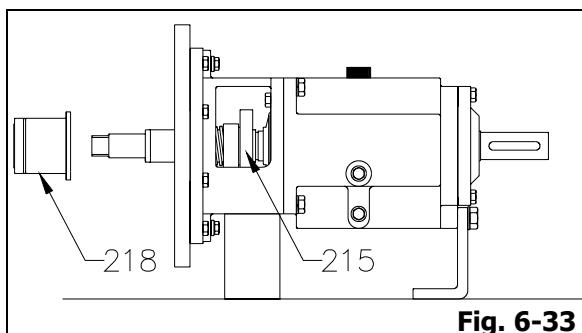

Fig. 6-33
- Lift off seal cover extension (218) assembly from seal cover (215) (Fig. 6-33).